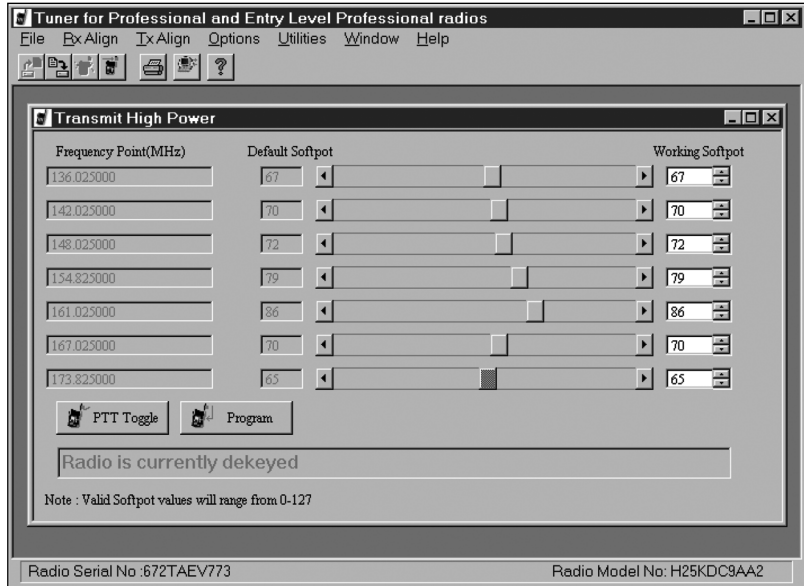

Figure 14. Transmit High Power Window in the Global Tuner
1. Under the **Tx Align** menu, select **Transmit Power**, then select **High** (see Figure 14).